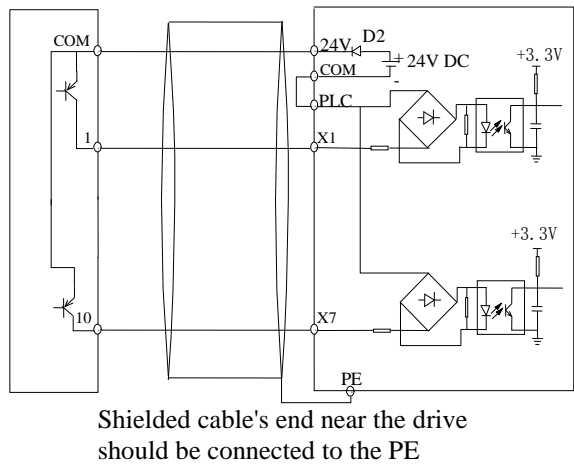

Fig 4-10 Drain connection of using the internal power supply
2) Use internal +24V power supply and the external controller uses PNP transistors whose common emitter areconnected, as shown in the fig 4-10(Make sure the PLC and 24v terminal is disconnected). The wiring is as shown in fig.4-10